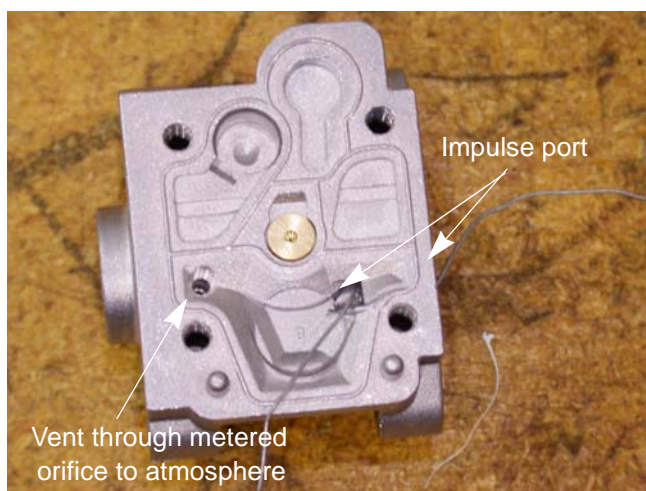

Figure 5.24
10. The fuel pump in the carburetor is driven by vacuum pulses in the intake port. The impulse port from the spacer lets the vacuum pulses into the pump chamber. See Figure 5.24.